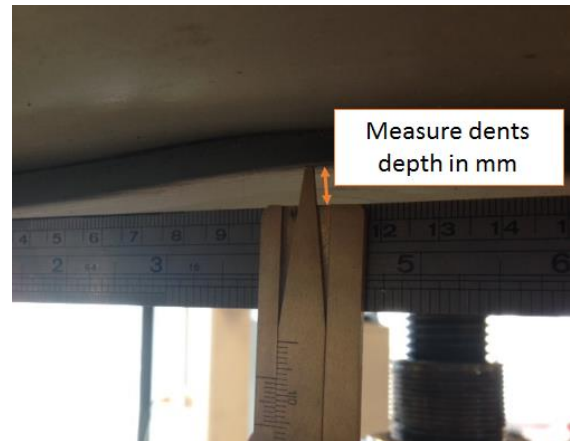

Figure 15 – Dents in the Baseplate
- A dent is **7 mm** or more in depth (Figure 15).
- A dent is **3 mm** or more in depth (Figure 15).